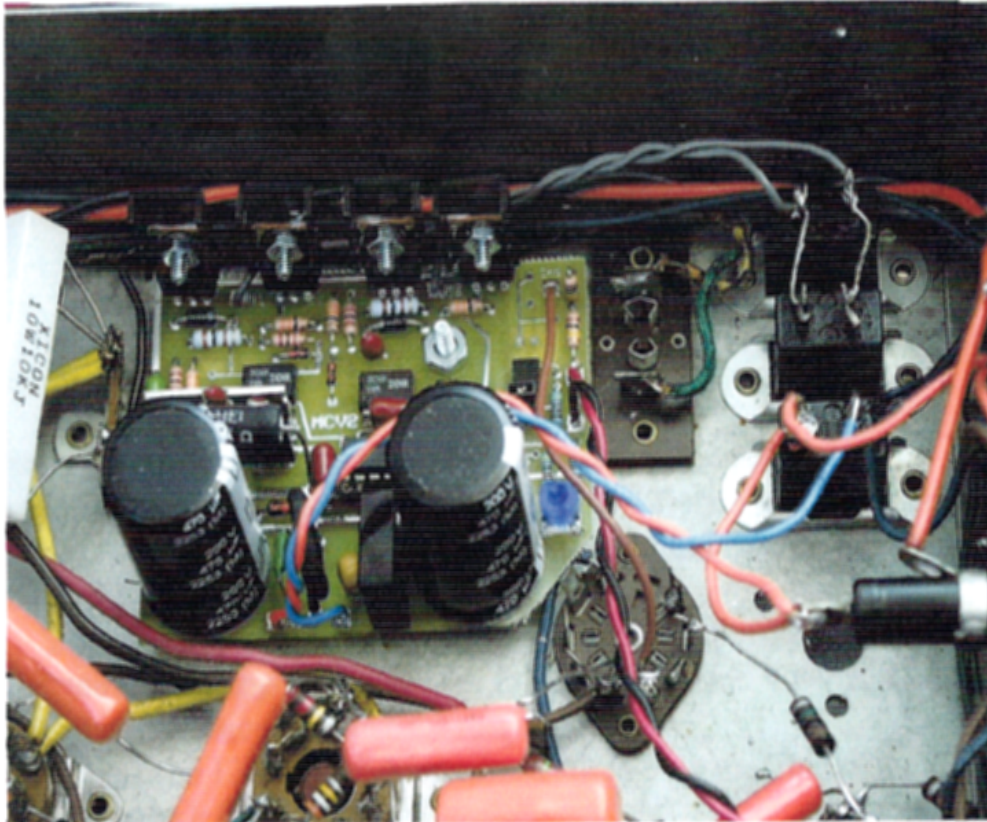

Figure 2. MCV2-22 Wiring
7. A complete set of leads is provided. (Figure 2) Hookup is as follows: